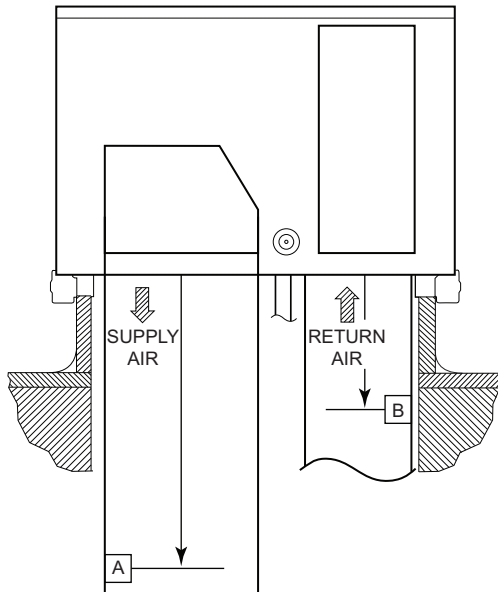

Fig. 29 — Measuring External Static Pressure — Distance Below Unit Base
4. Locate pressure ports or pitot tubes in the return duct and supply duct to measure external static pressure. See Fig. 29 and Tables 29-31 for typical locations.